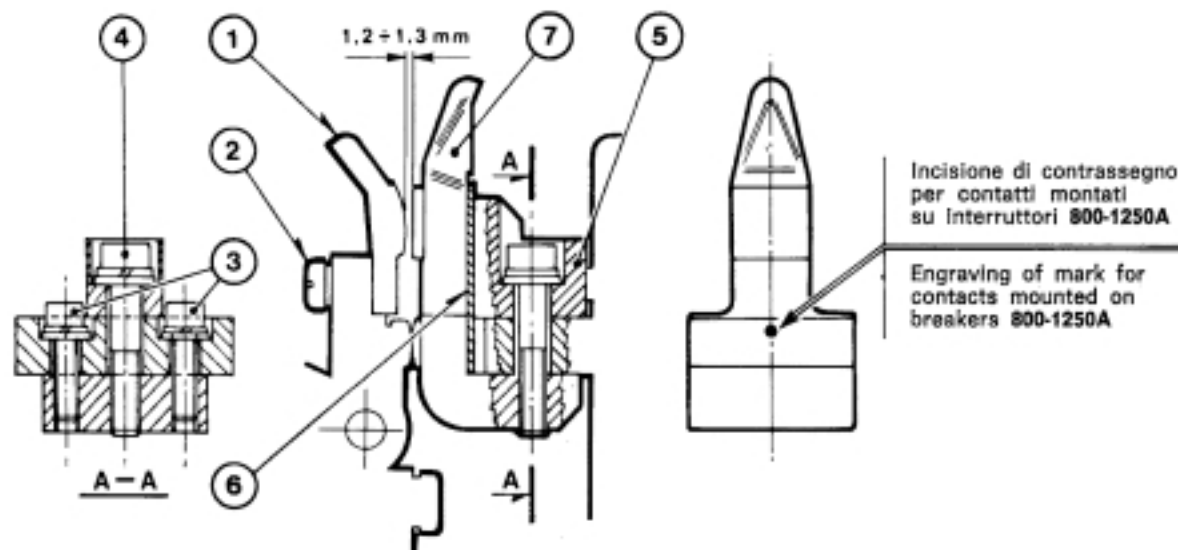

Fig. 14
**5.5.1. Sostituzione contatti d'arco mobili (fig. 14)**
**5.5.1. Replacing moving arcing contacts (fig. 14)**
**5.5.2. Sostituzione contatti fissi (fig. 14-14 bis)****5.5.2.1. Interruttore G 30-800 e G 30-1250 (fig. 14)**
**5.5.2.2. Interruttore G 30-1600 (fig. 14 bis)**
**5.5.2. Replacement of fixed contacts (fig. 14 - 14 bis)****5.5.2.1. Circuit breaker G 30 - 800 and G 30 - 1250 (fig. 14)**
The contacts (7) for breakers 800-1250 A are marked (see figure 14).
**5.5.2.2. Circuit breaker G 30 - 1600 (fig. 14 bis)**
With circuit breaker open and springs discharged, after having removed the arc chutes, perform the operations as described at point 5.5.2.1. When making the replacement it is very important to check that there will be no mark on the silver plate (see figure 14 bis), on the contrary to what had been specified for breakers 800-1250 A.
Fig. 14 bis